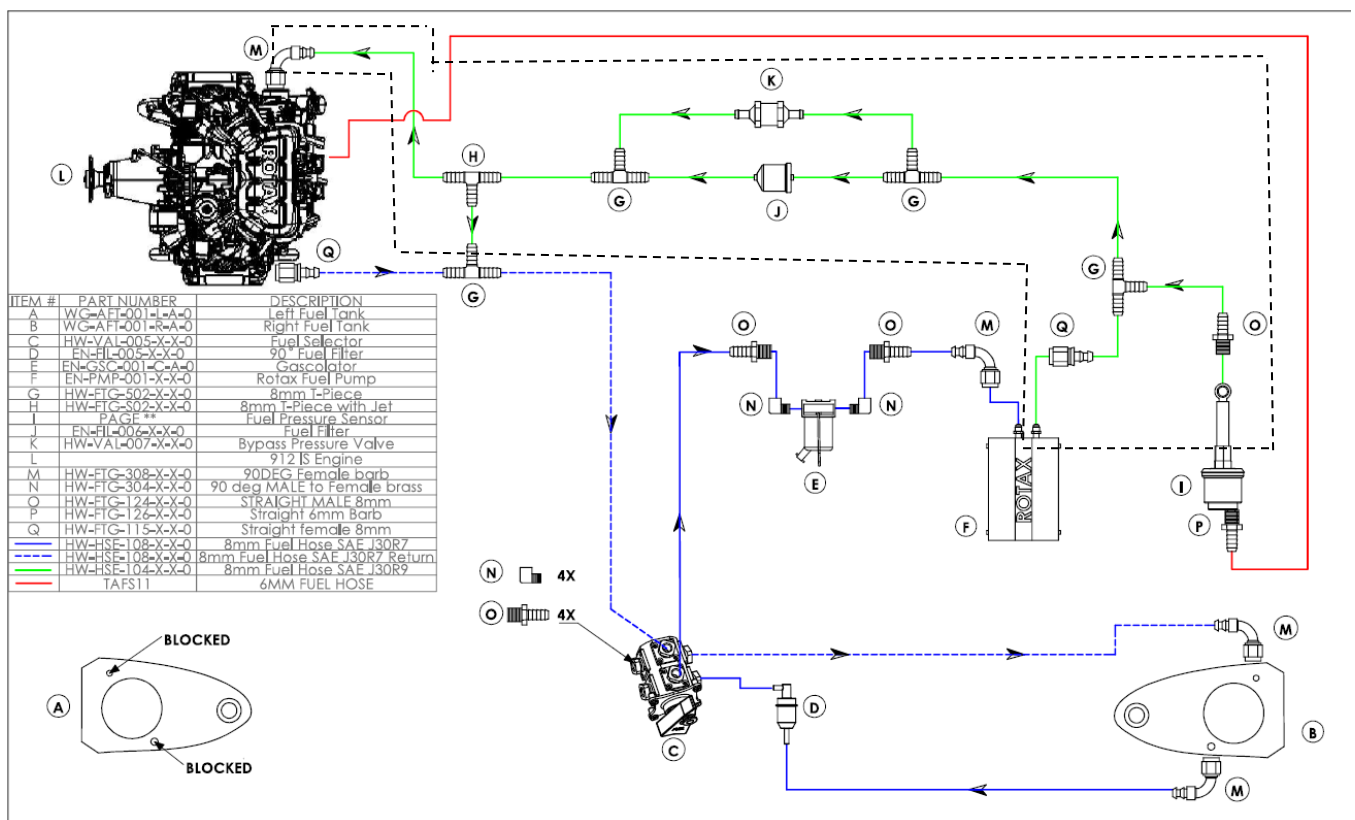
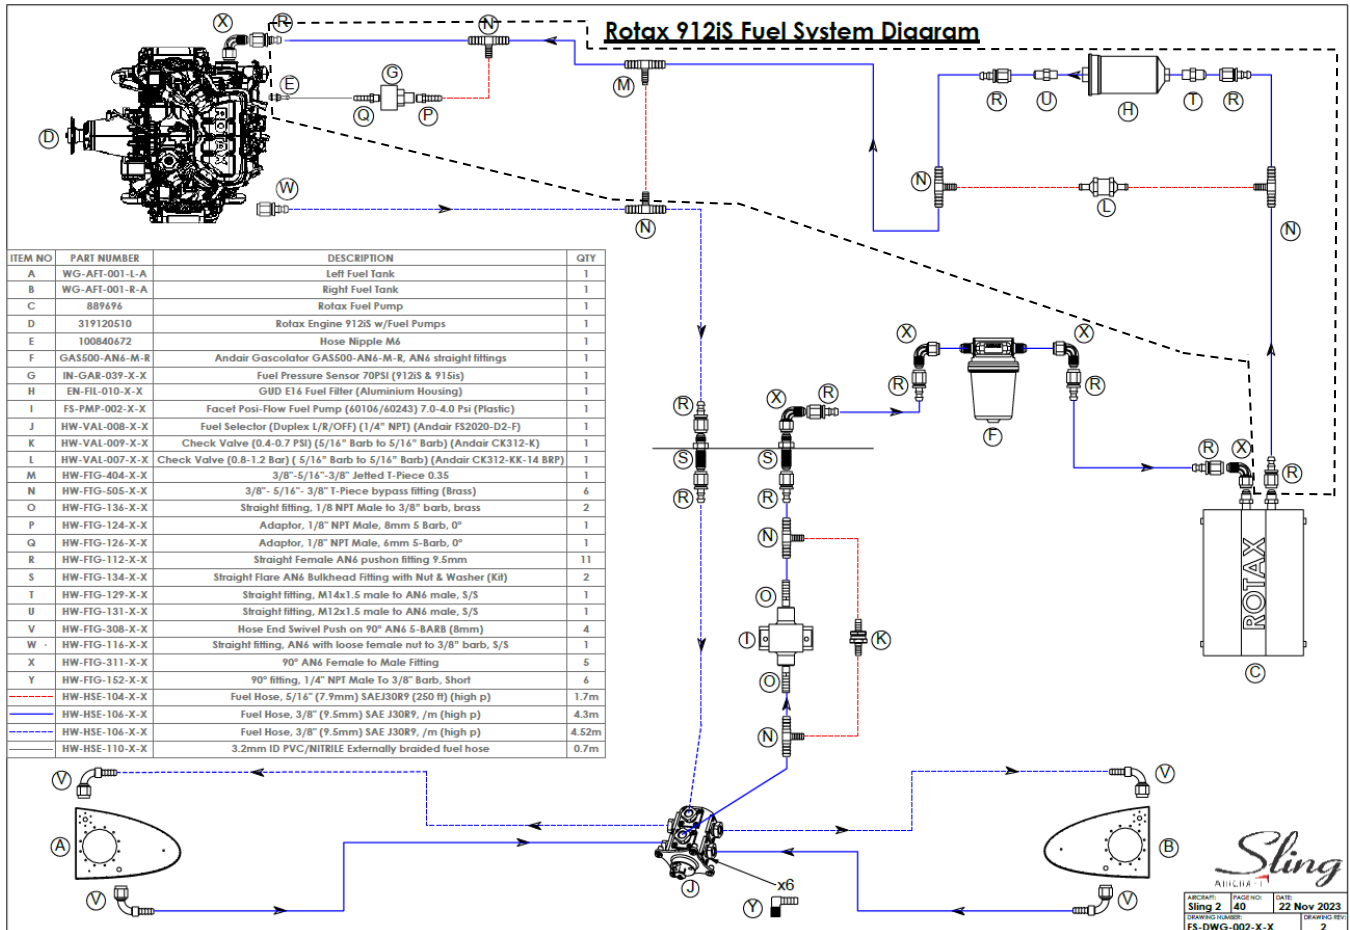

Figure 3: 912 iS Fuel System Diagram
Figure 4: 912 iS Fuel System Diagram
¹ Only required if you have the fuel system layout that corresponds to Figure 4.
² Only required if you have the fuel system layout that corresponds to Figure 3.
There are two fuel system configurations applicable to the Sling 2 and Sling LSA. These can be seen in Figure 3 and Figure 4.
With reference to Figure 3 and Figure 4, all the fuel lines bounded within the dashed line “----” must be inspected and replaced should they be of the sub-standard type of fuel hose. It must be replaced with the correct fuel hose as described in Section 2.
- Step 2: The heat sleeve around the fuel hose will be fixed in place using either locking wire or metal cable ties. Once the cowling has been removed, used the side cutters to remove these so that the heat sleeve can be moved to inspect the hose underneath. Refer to Figure 5 for an example of how the heat sleeve is attached using the cable ties. Please note, Figure 5 is just for reference purposes, all the fuel lines (as shown in Figure 3 and Figure 4.) must be checked.